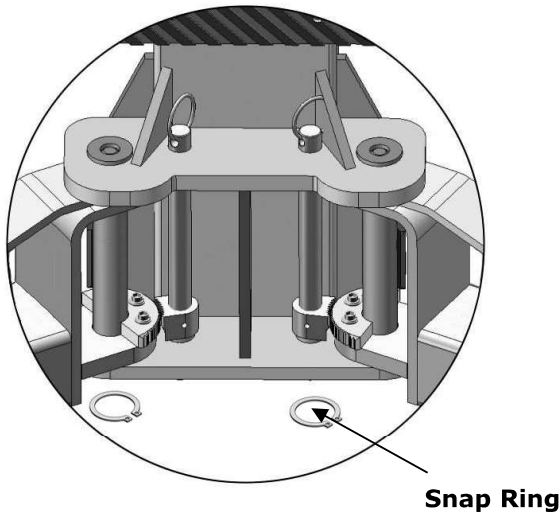

Fig. 34
1. Install the lifting arms (See Fig. 34).